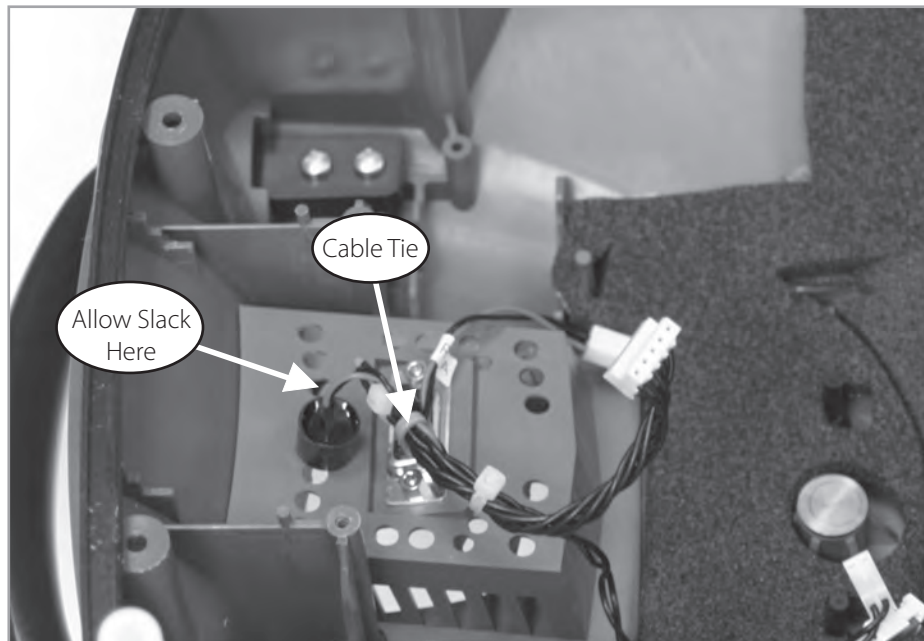

Figure 54: Buzzer Installation.
5. Place buzzer as shown in figure 54. Ensure that the buzzer opening is centered over the grill hole. Hold in place until adhesive cures.
6. Install the Control Board Assembly. Secure the wire harness with Cable as shown on Figure 54. Insure that there is a slack on the wire harness before tightening the Cable Tie. Plug in the buzzer.
1.3 Disconnect the 5 wire harnesses as shown in Figure 54. Remove the Battery Bridge pcb (BBB pcb) as shown in Fig 63 (Pull straight up and off of the Power Manager pcb.)